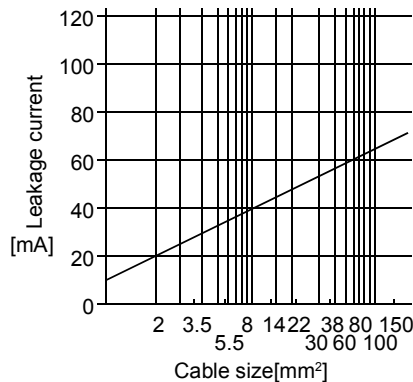

Fig14.1 Leakage current example (Ig1, Ig2) for CV cable run in metal conduit
- Ig1: Leakage current on the electric channel from the leakage current breaker to the input terminals of the servo amplifier (Found from Fig. 14.1.)
- Ig2: Leakage current on the electric channel from the output terminals of the servo amplifier to the servo motor (Found from Fig. 14.1.)